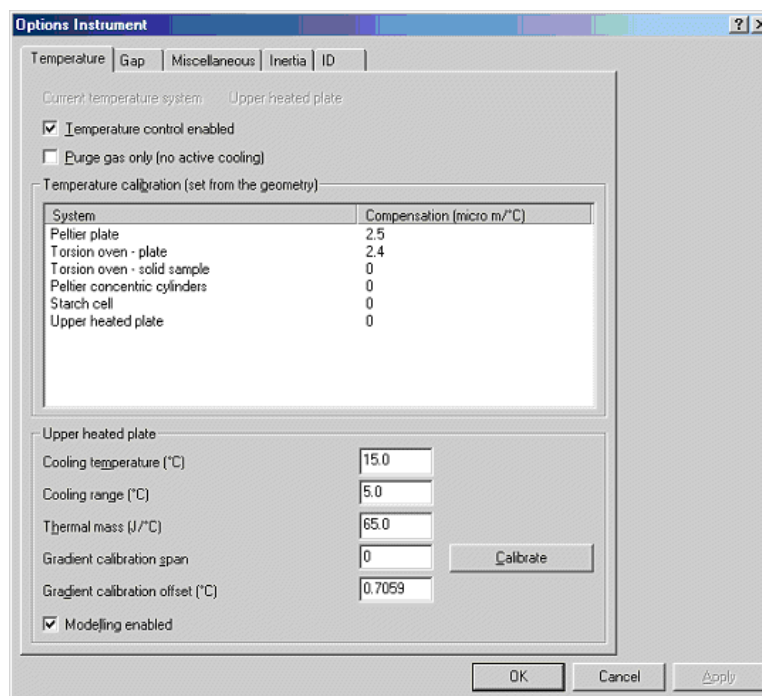

Figure 7.12
The temperature of the upper Upper Heated Plate is controlled through the instrument firmware. For the best performance the control algorithm requires accurate information concerning the thermal properties of the Upper Heated Plate and the cooling fluid. In the Rheology Advantage control module, under the **Options** menu click **Instrument** and then the **Temperature** tab. The window box shown in Figure 7.12 to the right will appear.
1. Under the **Options** menu click **Instrument** and then the **Temperature** tab. The window, shown in Figure 7.12 on the previous page, will be displayed.